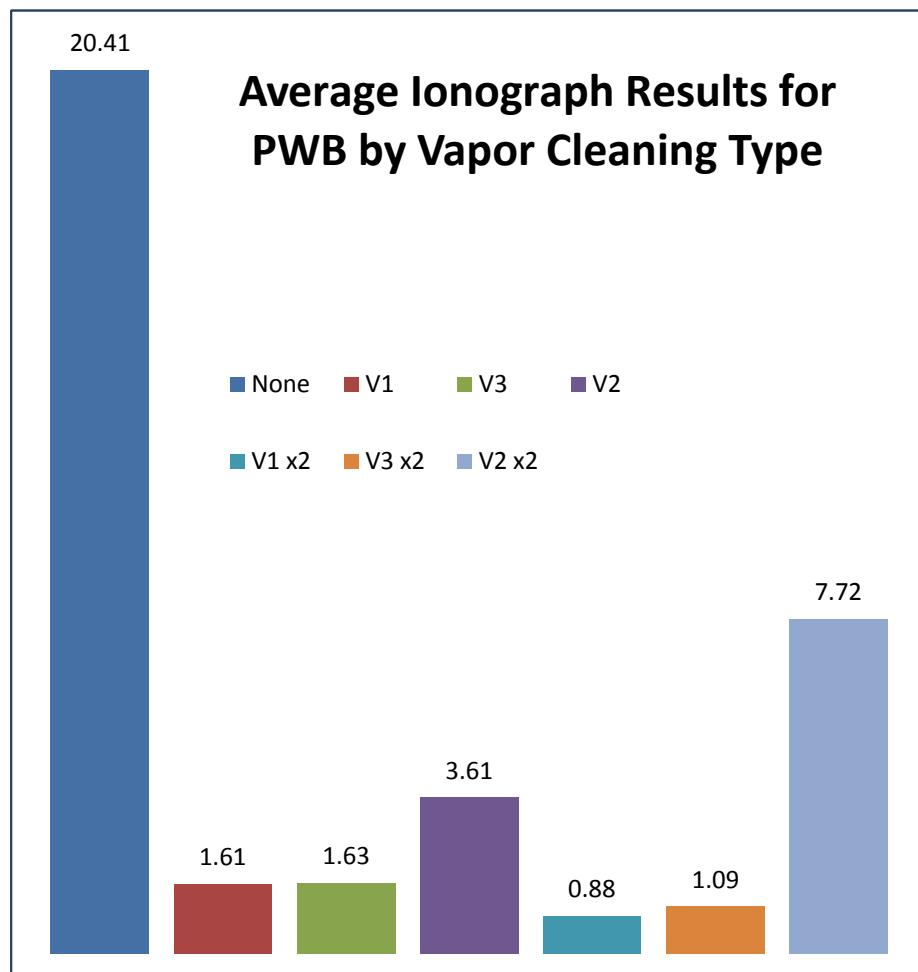

Figure 14: PWB Ionic Residue
- Figure 14: Hand soldered PWBs with vapor clean, Ionograph results